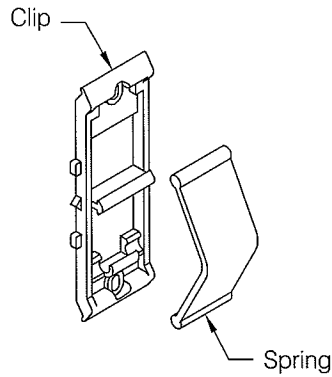
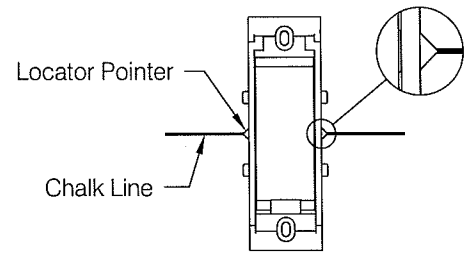
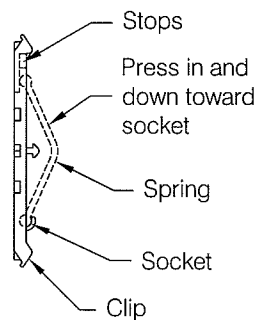

fig 2
fig 3
fig 8
Step 2: Each Red-E-Clip® retainer consists of a base or "Clip" and an impact cushion or "Spring" shipped separately, see **fig 2**. Secure clips to wall by aligning the molded location pointers in the clip with the chalk line, see **fig 3**. While the clip may be installed either end up it is recommended that the spring socket be oriented down, see **fig 8**.
Note: Install spring by snapping ball of spring into socket provided in clip. The easiest method is to locate the ball opposite the socket against the "stops" provided in the clip and snap the ball into the socket by pressing the crown of the spring both down and toward the socket, see **fig 8**.